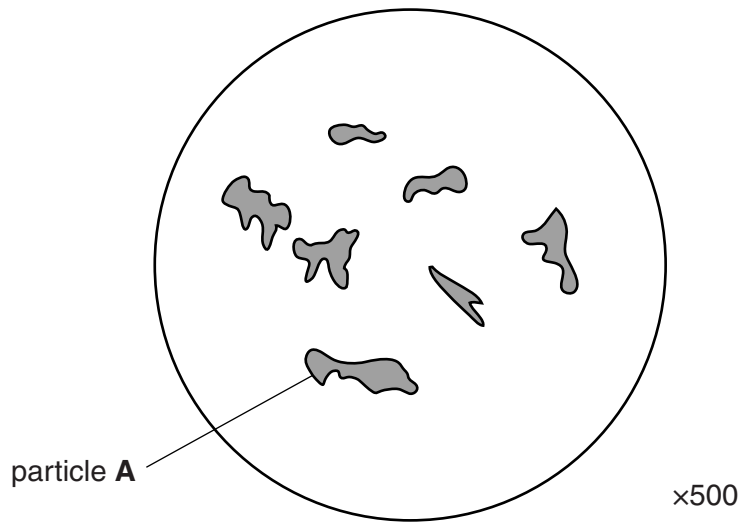

Fig. 1.3
- (g) Fig. 1.3 shows particles of volcanic ash viewed through a suitable microscope, at a magnification of x500.
- (ii) The average mass of the particles shown in Fig. 1.3 is 1.20×10^{-5} mg. Scientists sampling the ash cloud decided that an ash concentration of 0.004 mg for each cubic metre of air (0.004 mg m^{-3}) was the maximum limit for planes to fly through the ash cloud safely.